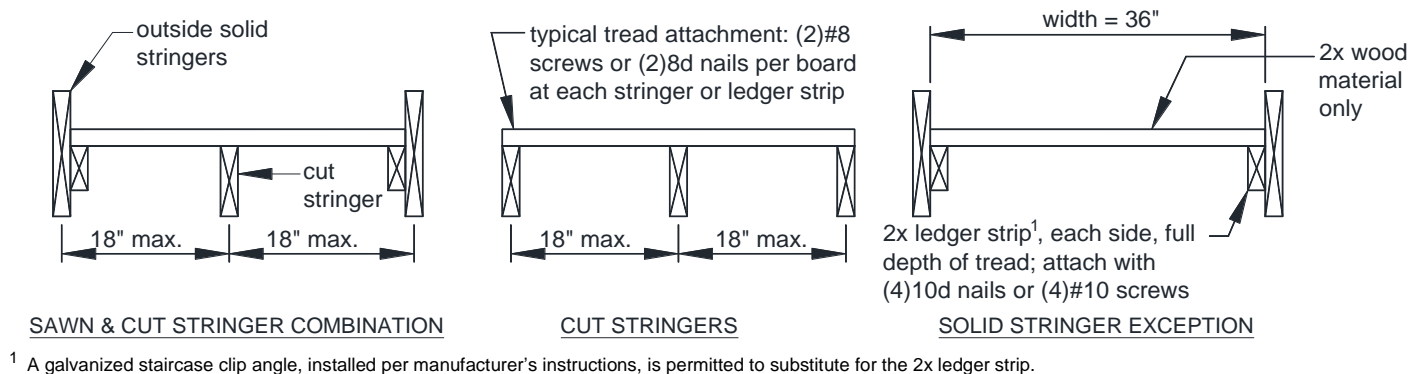

FIGURE 42: STRINGER TREADS
- Tread material shall be equivalent to the decking specified on Page 4 and attached in accordance with FIGURE 42. The span of plastic composites shall be per manufacturer and in some cases may be less than 18 inches specified in FIGURE 42.
- Stairs constructed using the solid stringer exception shall have treads constructed of 2x wood material only; see FIGURE 42.